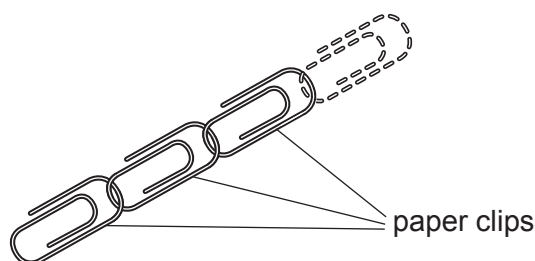

Fig. 1.1
- 1 All of the paper clips should be linked together, as shown in Fig. 1.1, to form a chain.